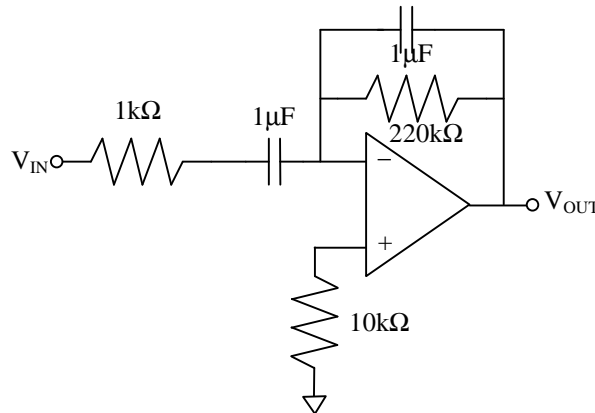

Figure 1: Analog Differentiation
2. The "inner-loop" and "outer-loop" controllers are both of PD type and require differentiation if direct velocity measurements are unavailable. Beam velocity can be acquired directly through the motor encoder and Altera counters, but ball velocity will have to be determined by differentiating position measurements gathered from Sharp GP2D12 distance sensors. This differentiation will be performed in hardware using the op-amp circuit shown in figure 1. Determine the transfer function $V_{OUT}(s)/V_{IN}(s)$ assuming an ideal op-amp and discuss why it acts like a differentiator at low input frequencies. What happens to the output as the input frequency increases? Is this a good thing?